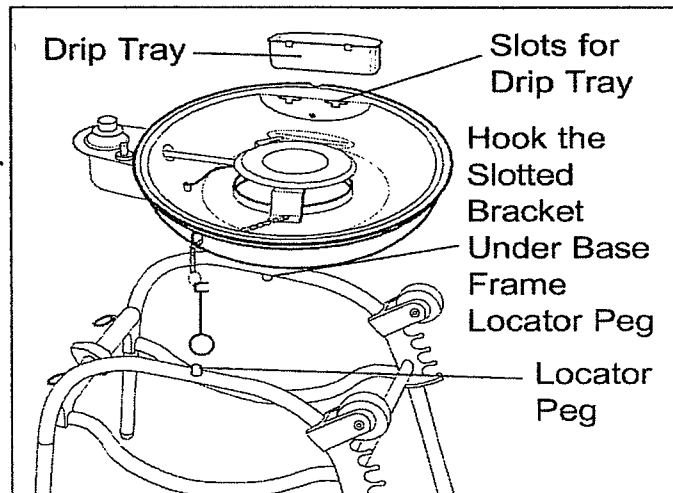

Figure 2
7. See "Grilling Positions" on the following pages and place the Grill Base on the Base Frame. Refer to Figure 2 and hook the Slotted Bracket around the Locator Peg under the Base Frame. Align the hole in the Grill Base with the Locator Peg on the opposite side of the Base Frame.
Place the Grill Base on the Base Frame by hooking the slotted bracket around the Locator Peg under the Base Frame. Align the hole in the Grill Base with the Locator Peg on the opposite side of the Base Frame. Place the Grill Plate on the Grill Base. **ATTACH DRIP TRAY INTO THE SLOTS.** (Refer to Figure 2 in 'Before First Use'.) Attach the Propane Cylinder. See 'Attaching Propane Gas Cylinder' for details. The Grill is ready for use.